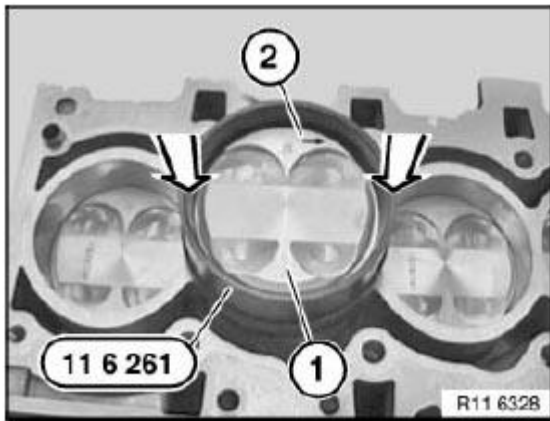

Fig. 152: Inserting Piston On Piston Crown Points
Press in piston (1) with special tool 11 6 261. See **Fig. 152**.